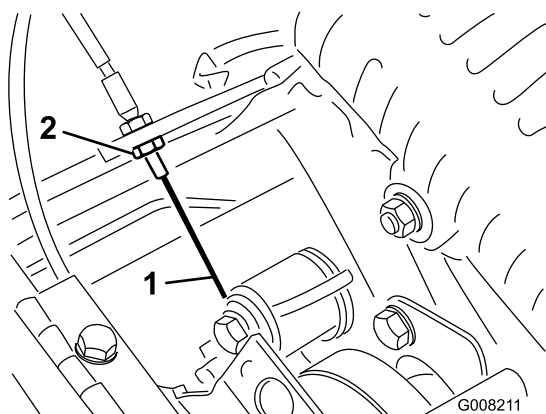

Figure 42
3. To increase the cable tension, loosen the front cable jam nut and tighten the back cable jam nut (Figure 42) until a force of 3 to 4 kg (7 to 9 lbs) is required to engage the traction control.